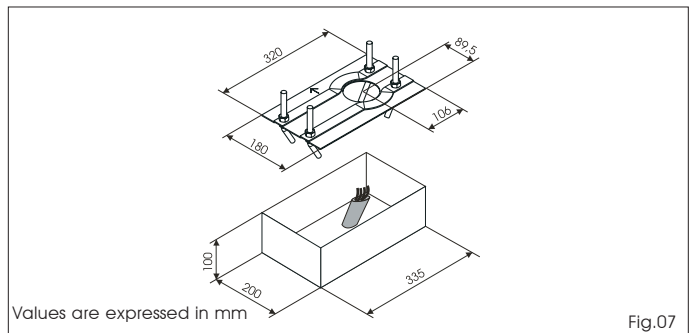

Fig.07
- After determining the position of the foundation plate, make a plinth as shown in Fig. 07 and wall the plate, providing several sheaths for routing the cables. Using a spirit level, check if the plate is perfectly level. Wait for the cement to set.